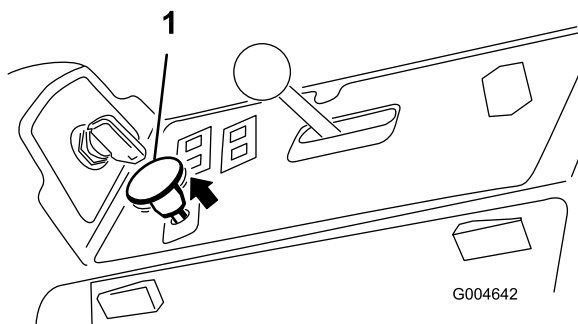

Figure 21
3. Pull up on the PTO switch to engage it (Figure 21).